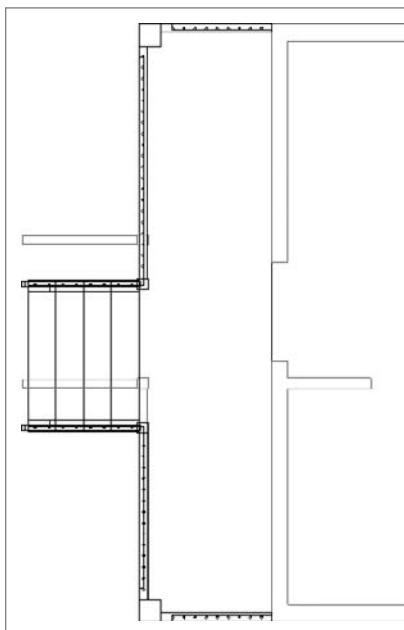

FIGURE 16.71 The rear deck after adjusting the handrails, skirts, and deck floor
11. Select the deck floor, horizontal railing, and horizontal skirts; then, using the triangular grips, move their right ends 4' (1220 mm) to the left, so they extend only to the back wall of the cabin. Figure 16.71 shows the back of the cabin after adjusting the features.